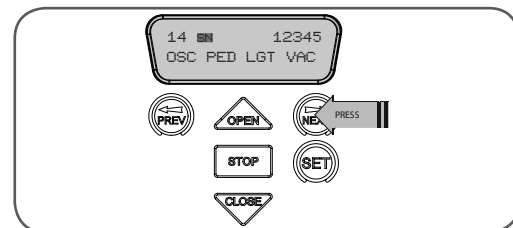

fig 31
5. Press NEXT to reveal the Serial Number (**Fig. 31**).